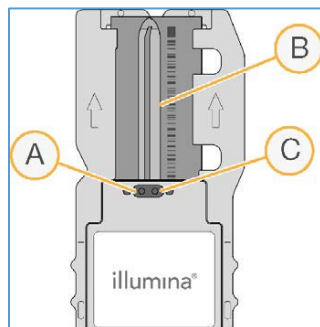

Figure 1. Flow cell. Port gaskets (A & C), imaging channels (B)
- 9.5.5. Wet a clean piece of lens paper with ethanol and clean the flow cell glass, making sure that the glass imaging area (B in Fig. 1 below) is free of streaks, lint, and tissue fibers.
NOTE: Do not add ethanol directly to flow cell. Avoid getting ethanol on the flow cell gaskets (A & C in Fig. 1).